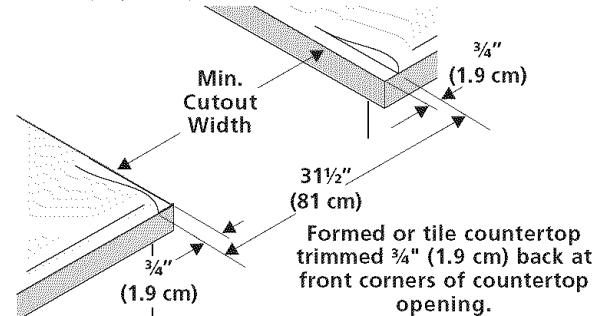

Figure 4
- **Formed front-edged countertops** must have molded edge shaved flat  $\frac{3}{4}$ " (1.9 cm) from each front corner of opening (Figure 4).
- **Tile countertops** may need trim cut back  $\frac{3}{4}$ " (1.9 cm) from each front corner and/or rounded edge flattened (Figure 4).